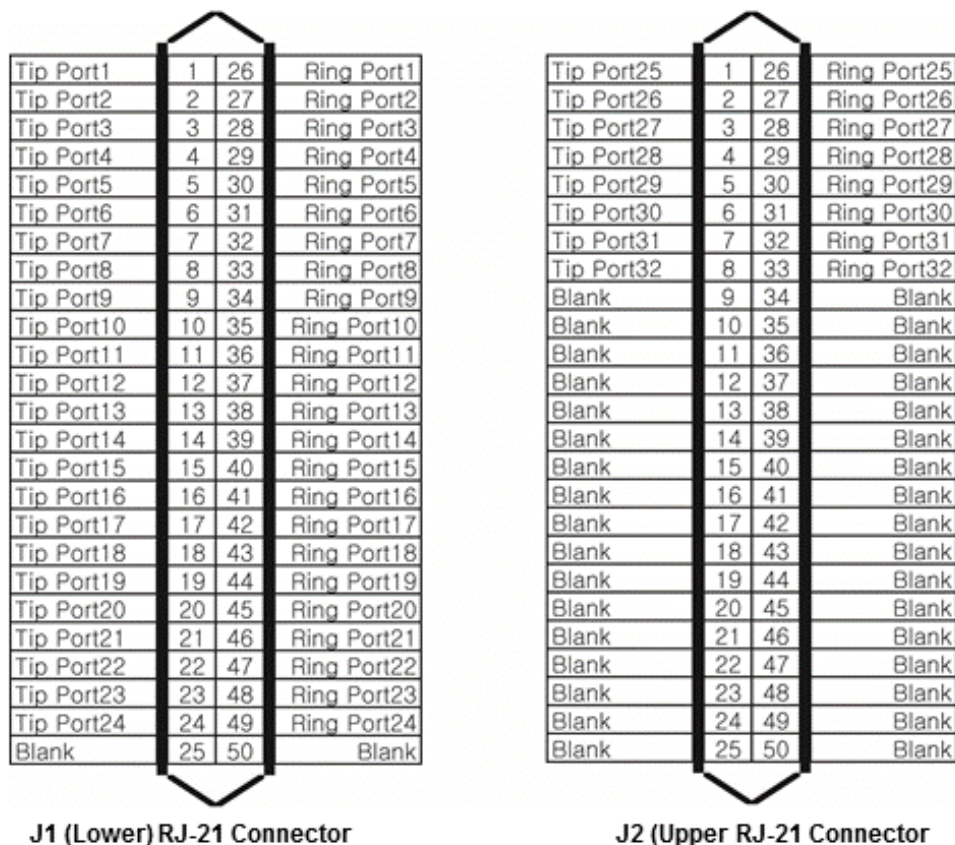

Figure 6.11-2 SLTM32 RJ-21X Connector Configuration
On the rear are two (2) 25-pair RJ-21x style connectors terminated as shown in Figure 6.11-2